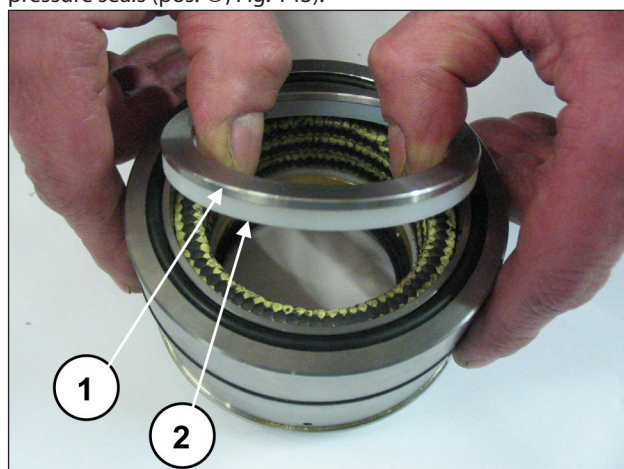
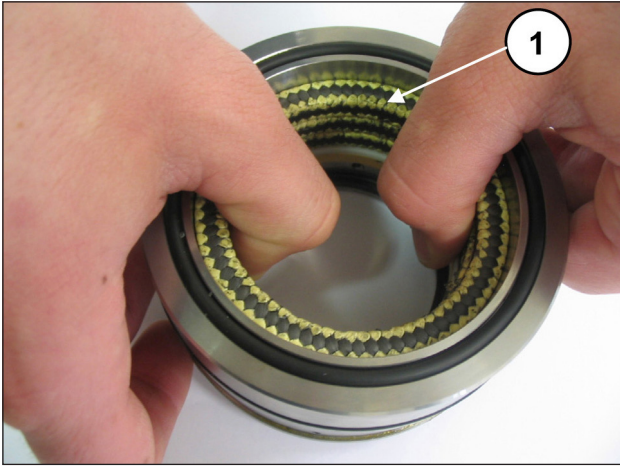

Fig. 142
Fig. 143
Separate the seal support from the liner, remove the spring ring and scraper ring (pos. ①②, Fig. 142) to access the pressure seals (pos. ①, Fig. 143).